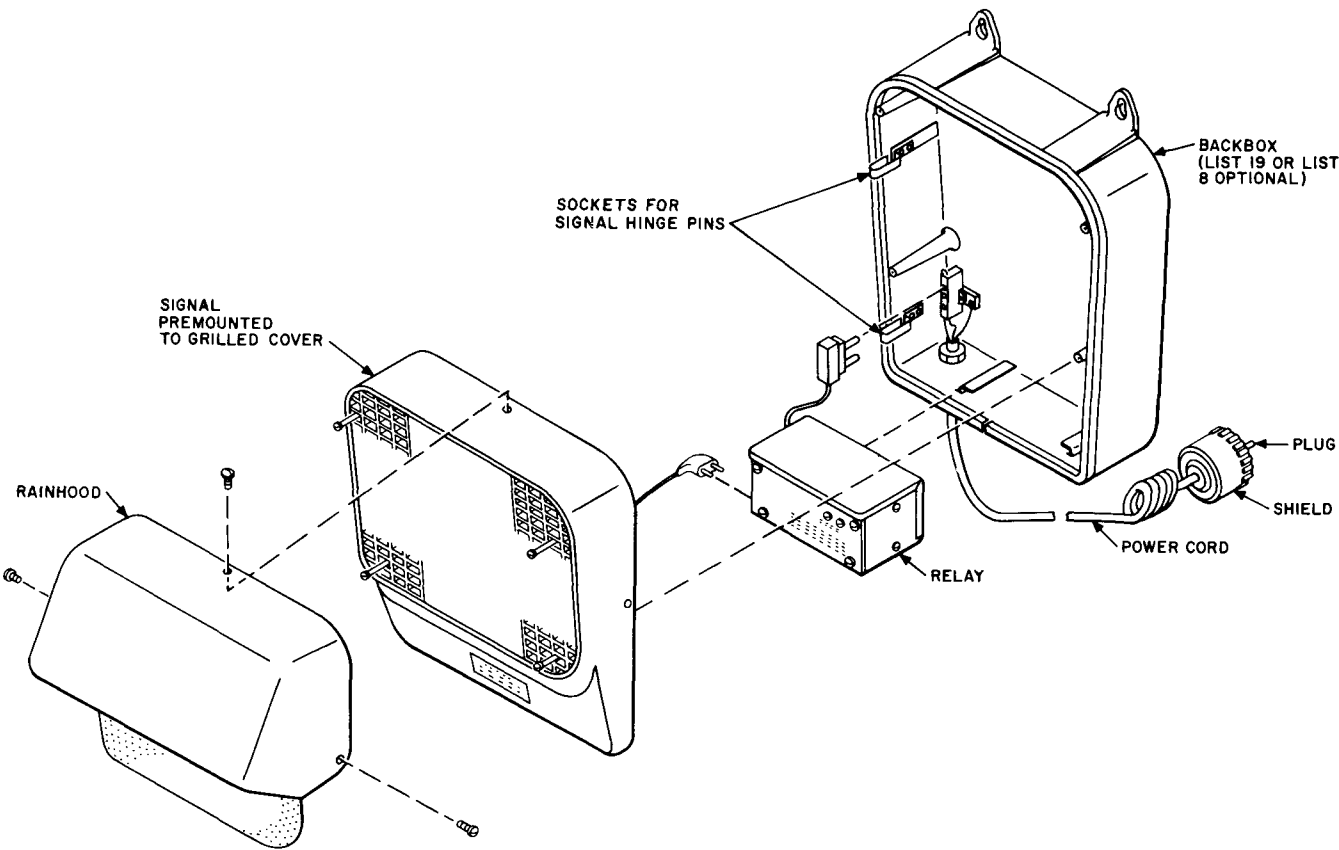

Fig. 1—Exploded View of Assembled Signal Using Relay
- A typical signal (Fig. 1) includes a backbox, a signal premounted to grilled cover, and a control relay.
- Mount relay in the horizontal position on mounts provided in backbox (Fig. 1).
- Engage the two pins on front cover to form a hinge with the two sockets which emerge from backbox (Fig. 1).
- Fasten the signal to the backbox with four machine screws which are furnished (Fig. 1).
- Attach with furnished screws to the signal unit (Fig. 1).